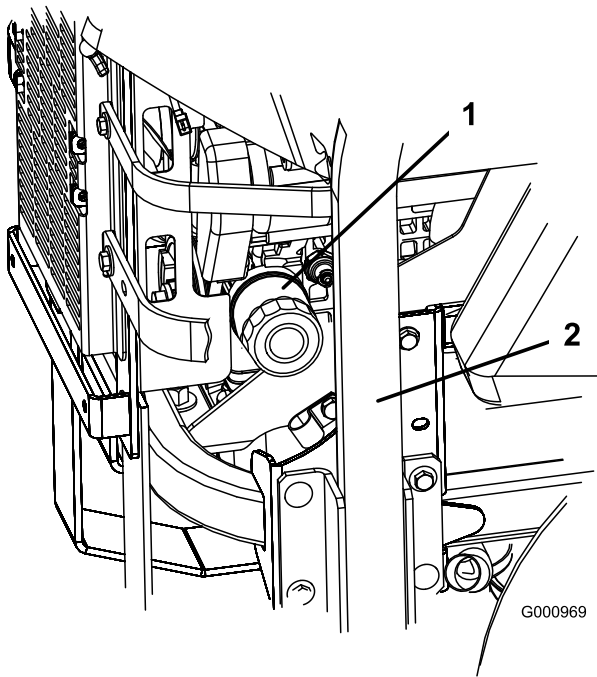
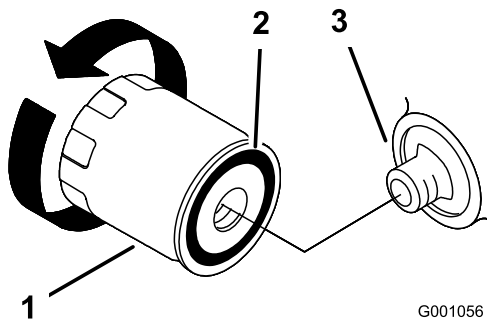

Figure 52
Figure 53
- Turn the filter counterclockwise to remove it (Figure 52 and Figure 53).